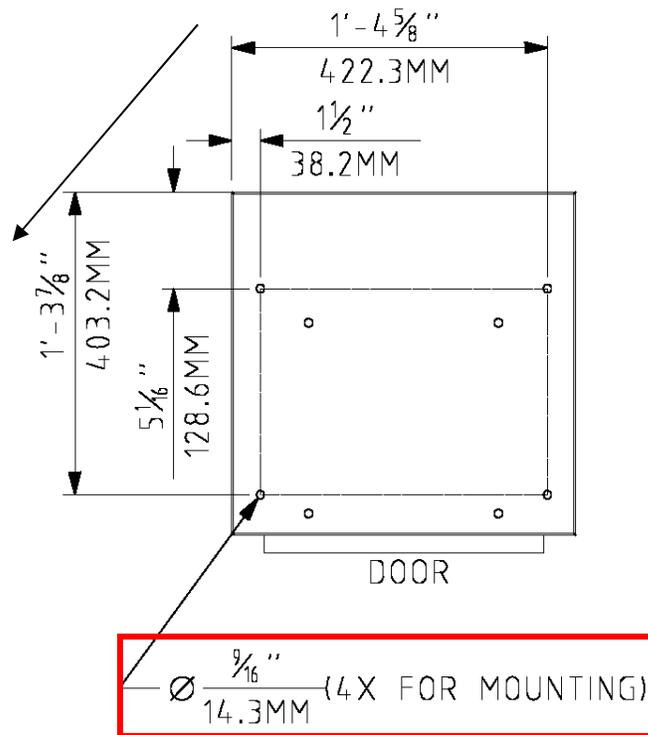

Figure 2-1: Rack Mounting Hole Locations in Floor
5. The floor outline dimensions and mounting hole locations are shown in Figure 2-1 below: